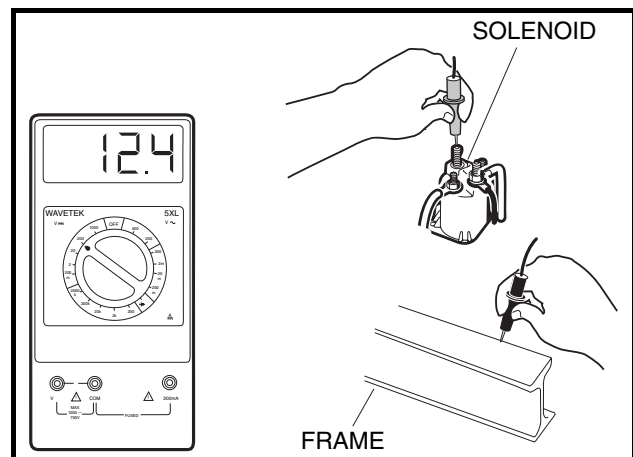

Figure 11-17 Solenoid Ground Test
8. With the Forward/Reverse handle still in NEUTRAL and the neutral lockout cam in the MAINTENANCE position, set the multimeter to 20 volts DC and place the red (+) probe on the large post that does not have wires connected to it. Place the black (-) probe on the vehicle frame. Turn key switch to the ON position, press accelerator pedal, and listen for solenoid click. The meter should read full battery voltage. If the reading is incorrect, replace the solenoid (**Figure 11-17, Page 11-19**).